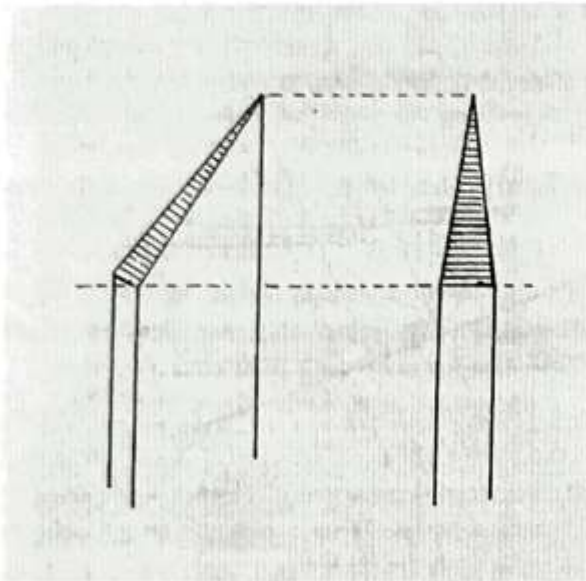

Fig 12.27 The initial setting and lengthening of the skew angle makes the chisel look wedge-shaped
- 1 Grind the skew angle first: the acute angle at the tip of the blade should be $40\text{--}45^\circ$ for general use, around 30° for more delicate work. Present the end of the blade to the wheel so as to keep a straight line along the edge. This grinding will make the edge look wedge-shaped, narrowing to the long point (Fig 12.27).